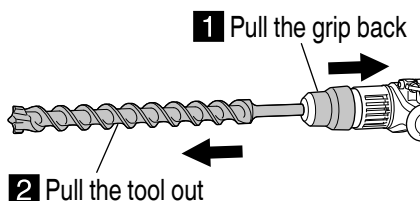

Fig. 19
- (4) To remove the tool, fully pull the grip in the direction of the arrow and pull out the tool (Fig. 19).